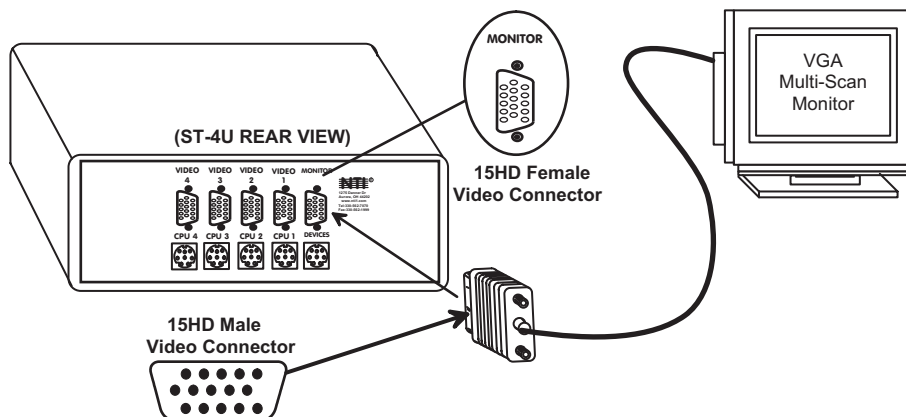

Figure 4- Connect the monitor
4. Connect the monitor to the port labeled MONITOR on the rear of the NODEMUX. (See Fig. 4.)